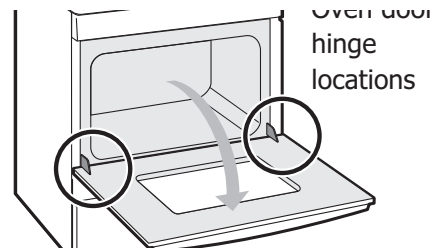

Figure 28: Door hinge location
1. Open oven door completely, horizontal with floor (See Figure 28).
3. Fully open the oven door, horizontal with floor (See Figure 28).